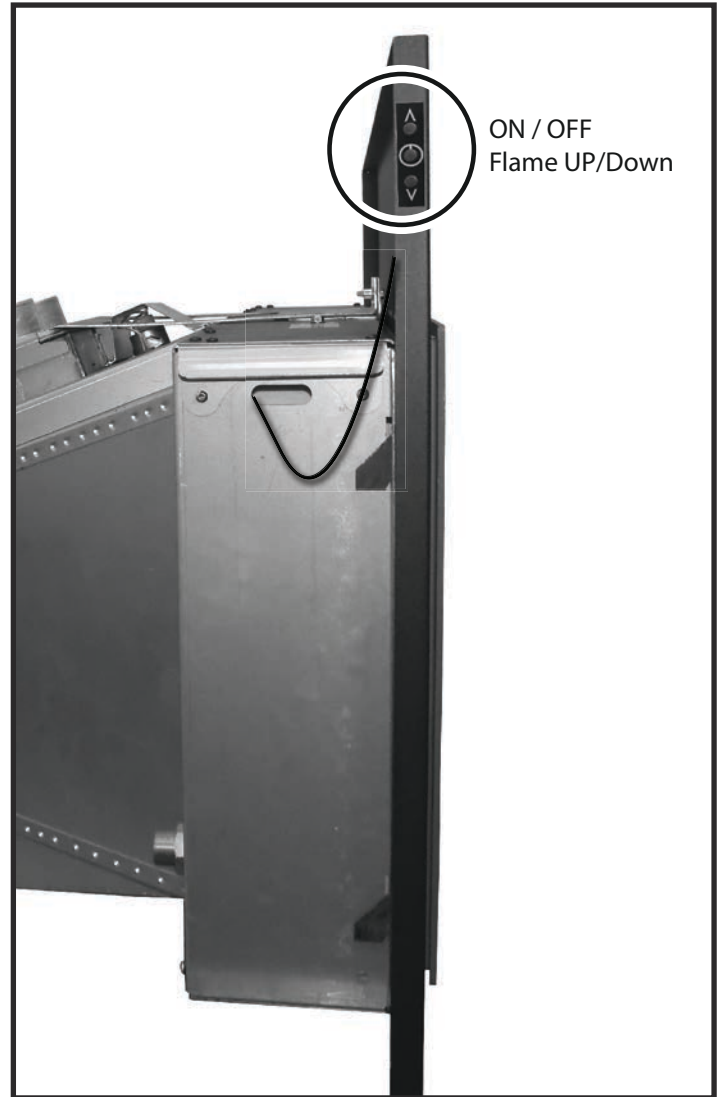

Figure 109: On Off switch location for Maxitrol units.
4. Install the surround backing plate and surround (Figure 109).